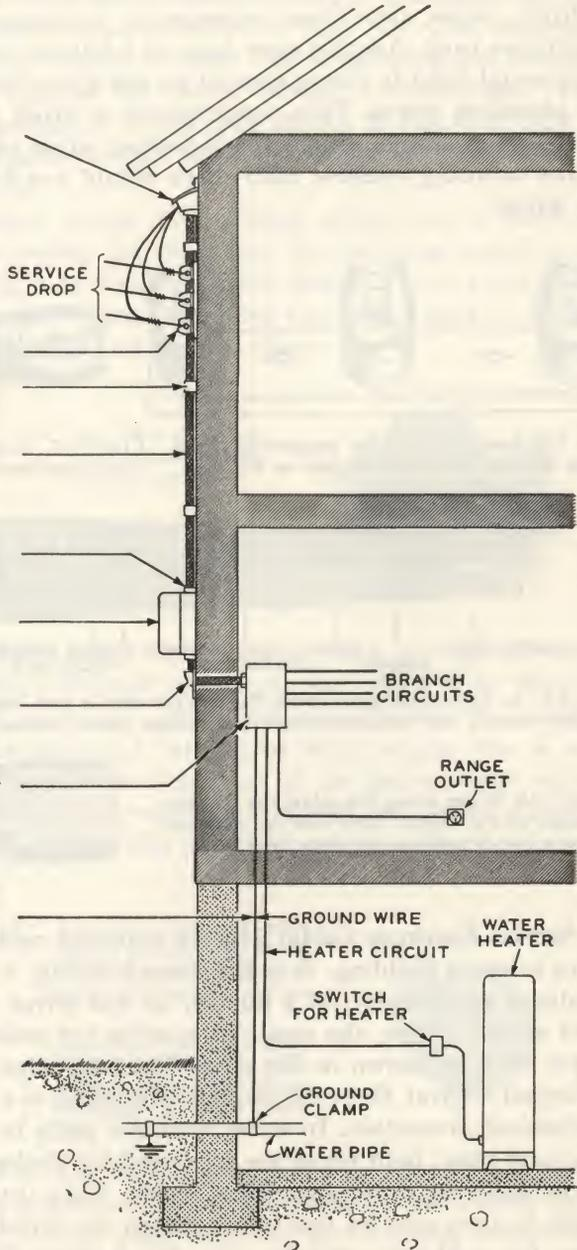

Fig. 7-5. A bird's-eye view of a typical service entrance.
**Installation of Service Entrance:** Up to now we have discussed the major parts that make up the service entrance, and how to select the right kind and size. All these parts must now be installed. Figure 7-5 shows a typical entrance. We will have to install insulators on the outside of the building, and the Power Company will run their wires up to that point. We must provide wires from the end of the Power Company's wires, down to the meter socket, and then on into the house to the main switch or the circuit breakers. We can use special cable for the purpose, or run wires through conduit. After installing the switch or circuit breakers, we must properly ground the installation. Then we are ready to wire the branch circuits.